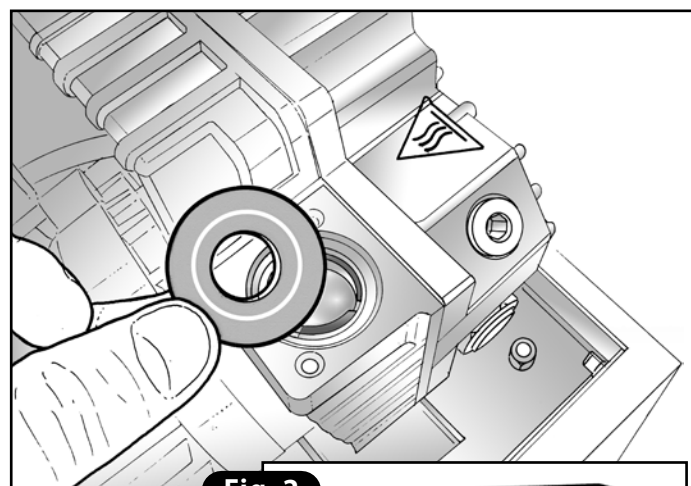

Fig. 2
- 4) Remove first the rubber seal and then the steel one. Check the condition of the accessible intake section and clean it if necessary with a cloth soaked in alcohol (**Fig. 2**).